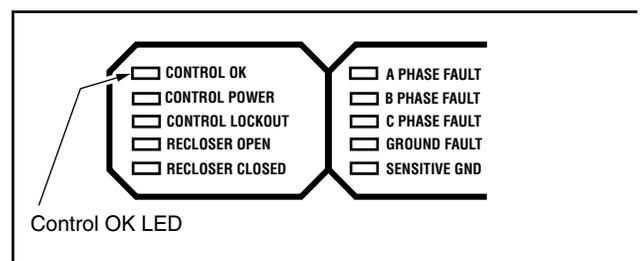

Figure 40. Control OK LED.
4. Verify the Control OK LED is illuminated on the control operator panel (Figure 40). This indicates the presence of AC power.